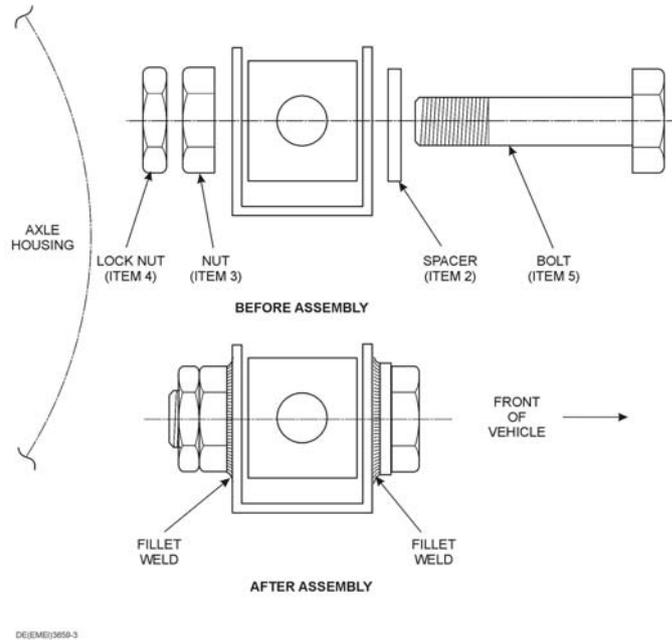

Figure 116 Panhard Rod Mount
- e. Fit Items 2, 3 and 5 from Table 15 into the axle case mounts as shown in Figure 116.
- f. Weld the front spacer and the rear nut to the front axle casing mount, as shown in Figure 116 with a 3 mm continuous fillet weld, using either:
- (1) Manual Metal Arc Welding (MMAW) process using electrodes conforming to AS/NZS 4855: E4918 Welding Consumables – Covered Electrodes for Manual Metal Arc Welding of Non-alloy and Fine Grain Steels.
- (2) Gas Metal Arc Welding (GMAW) process using consumables conforming to AS/NZS 2717.1: ES6-GC/M-W503AH and shielding gas Argoshield Standard.